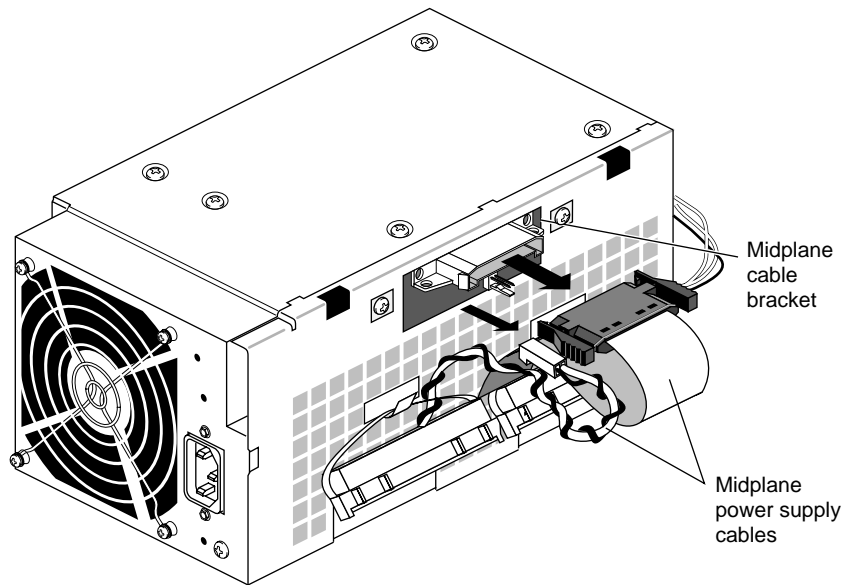

Figure 9-23 Disconnecting the Terminated Midplane Power Supply Cables
- Pinch together the corrugated edges on the ribbon cable connector, and disconnect it from the terminating bracket. See Figure 9-23.